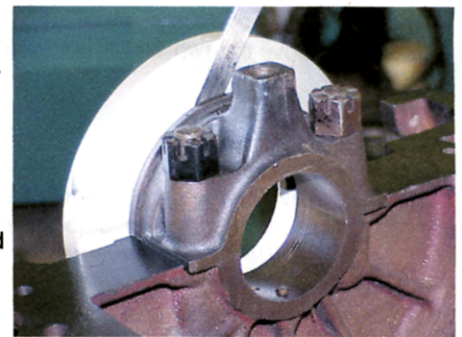

FIGURE 2
7) Offer up the lower half of the Seal Retainer Assembly. Determine that it is not touching the rear surface of the rear main bearing cap: there must be a slight gap (.006-.012"). (REFER TO FIGURE 2) The rear face of the rear main cap was never a factory-machined surface and can be quite uneven: some, especially early, main caps are quite thick in this area. It may be necessary to remove some material from this surface to insure a proper gap. This may be done with a file, grinder, disk or belt sander, etc. Don't worry if this surface is a bit rough or uneven: the sealer which you will use in Step 10 will take care of this.
8) With the rear main bearing cap secured, attach the two Seal Retainer halves together, using the two socket screws and hex wrench supplied. There **must** be a slight (.006-.012") gap between the retainer and main bearing cap. (REFER TO FIGURE 2) If not, go back to Step 7. The Permatex sealer will fill to a 1/16" gap. (It is important to use a thread lubricant on the two socket screw threads)